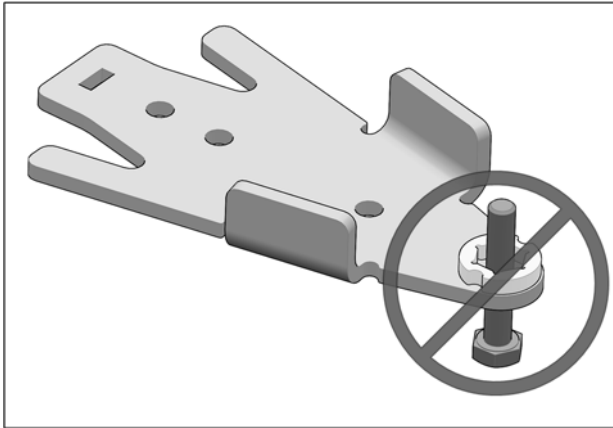

Fig. 14
**CAUTION:** Make sure that bolt is inserted in the right direction. See Fig. 14